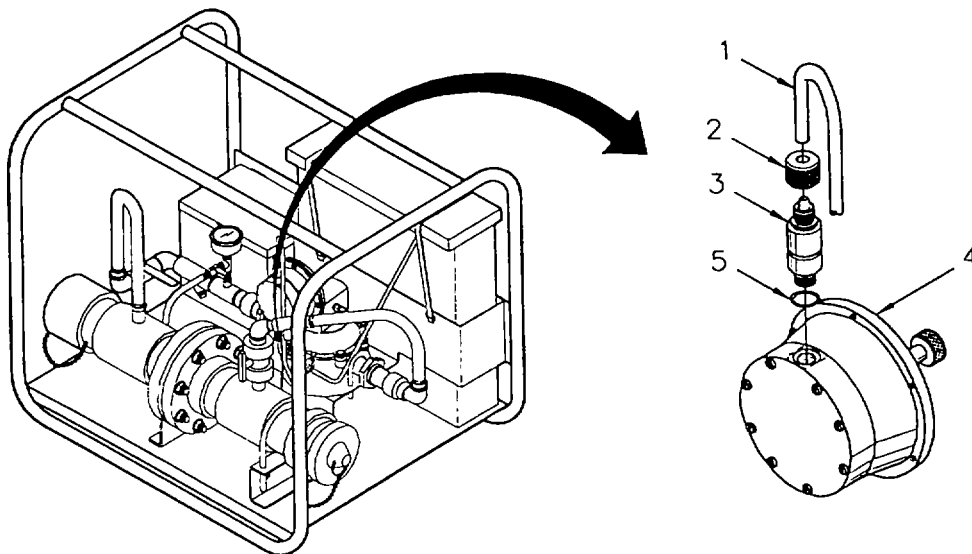

Figure 3-5. Discharge Valve and Tubing
- (1) Disconnect tubing (1, Figure 3-5) by unscrewing tube nut (2) from discharge valve (3).
- (1) Install preformed packing (5, Figure 3-5) on valve body (3) and screw valve body into pumper assembly (4) and hand tighten.